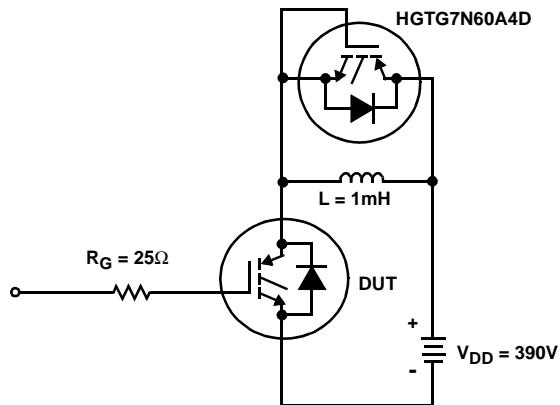

FIGURE 24. INDUCTIVE SWITCHING TEST CIRCUIT
2. Values for two Turn-On loss conditions are shown for the convenience of the circuit designer. $E_{\text{ON}1}$ is the turn-on loss of the IGBT only. $E_{\text{ON}2}$ is the turn-on loss when a typical diode is used in the test circuit and the diode is at the same T_J as the IGBT. The diode type is specified in Figure 24.